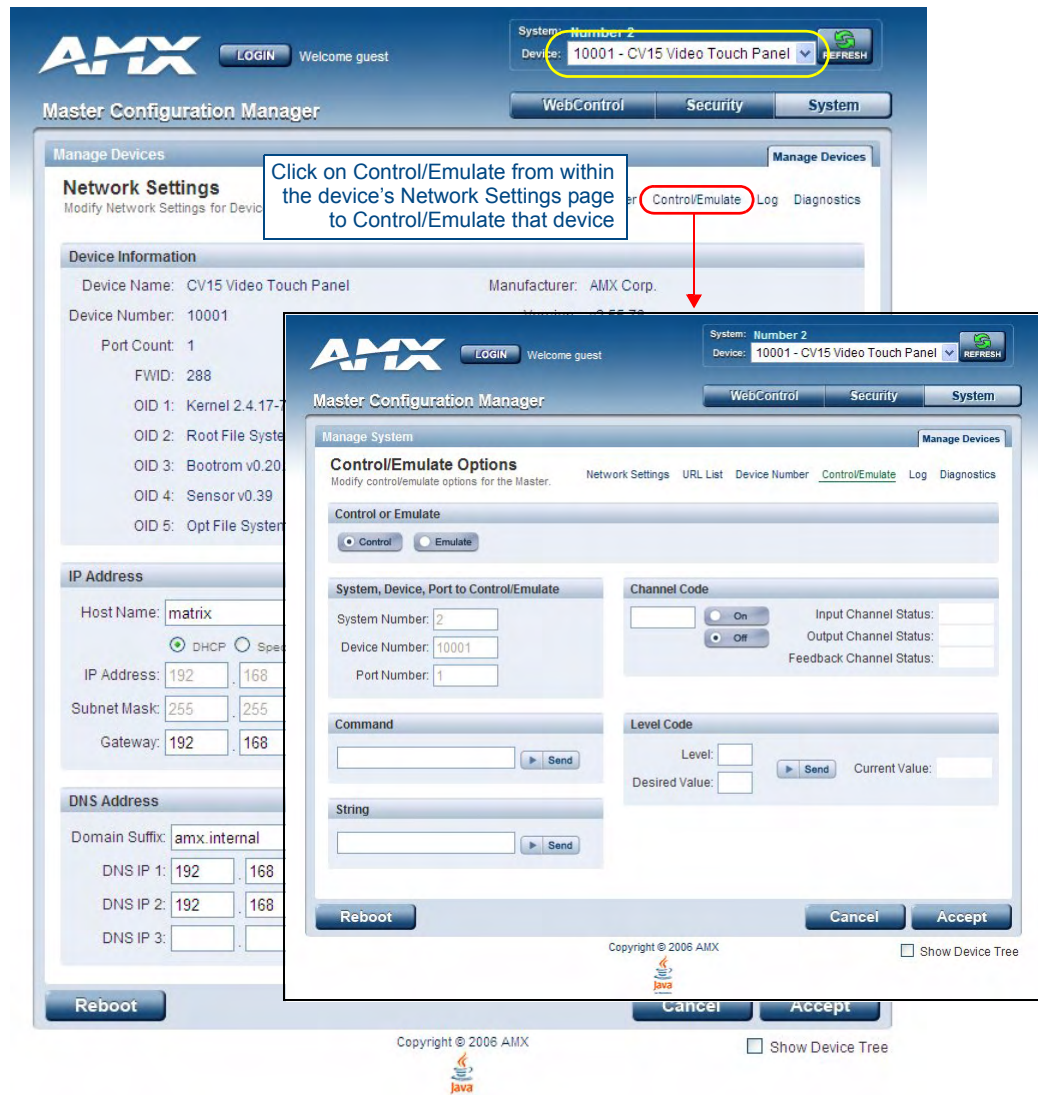

FIG. 30 Select Control/Emulate from within a selected Device's Network Settings page
- Click on the *Control/Emulate* link. This opens a Control/Emulate Options page for the selected device (FIG. 30).